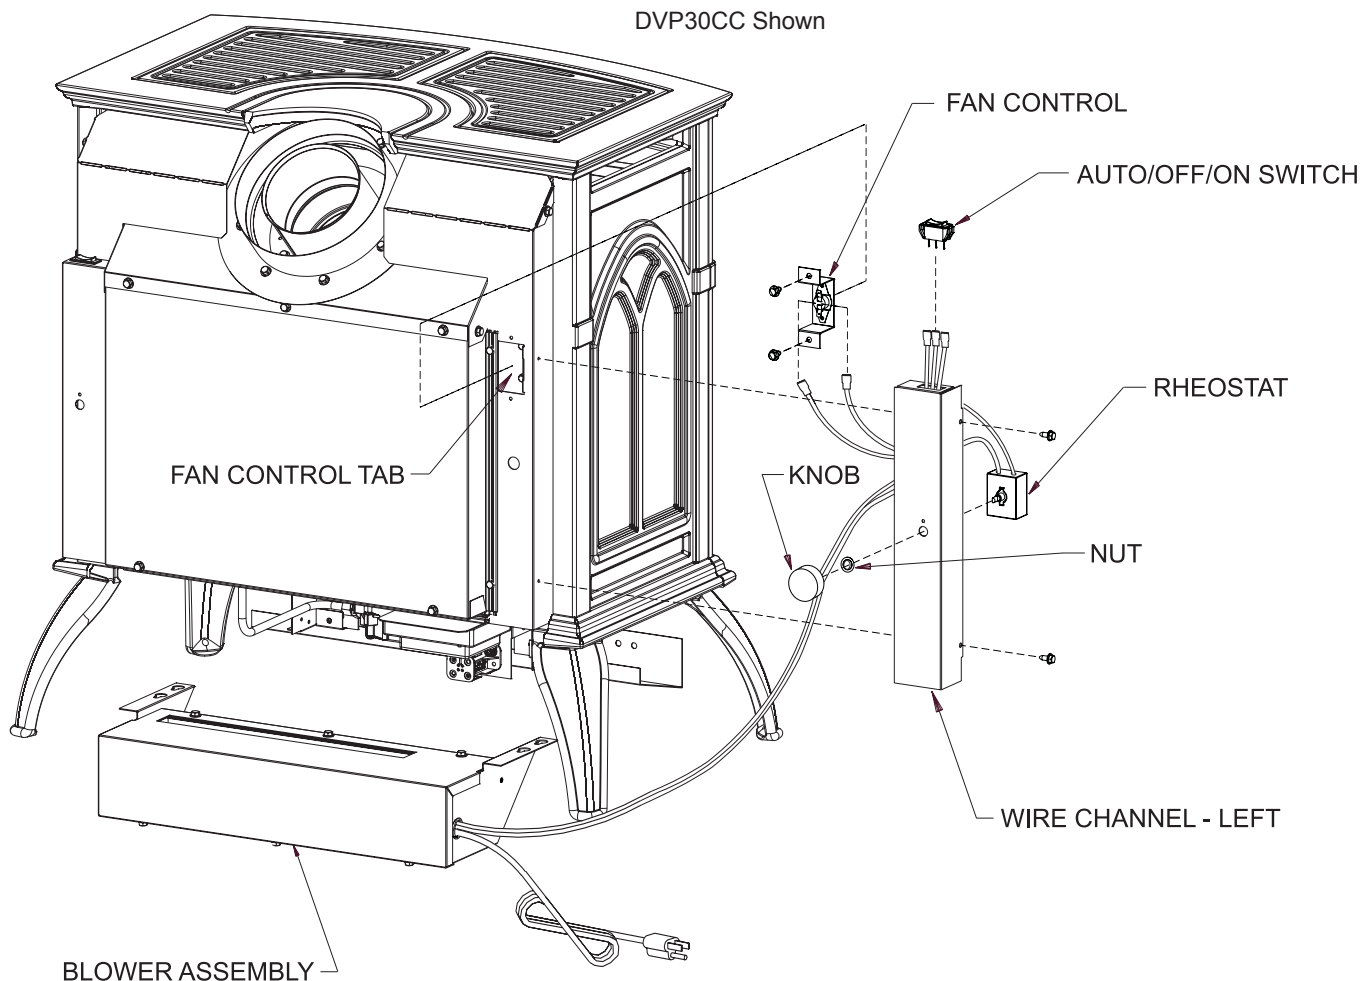

Figure 28 - DVP30CC Shown
4. Remove wire channel-left from appliance by removing 10 x 1/2" screws on left side of the appliance. **Note:** Some units require a new wire channel. If Rheostat mounting holes are missing from part removed from unit, discard wire channel removed from unit and continue installation with appropriate wire channel shipped with blower. See Figure 28.
13. Bend the fan control tab, located on the left side of the back of the unit, inward toward the unit. See Figure 28. Be sure tab is bent at least 90 degrees to allow fan control bracket to slide into slot.